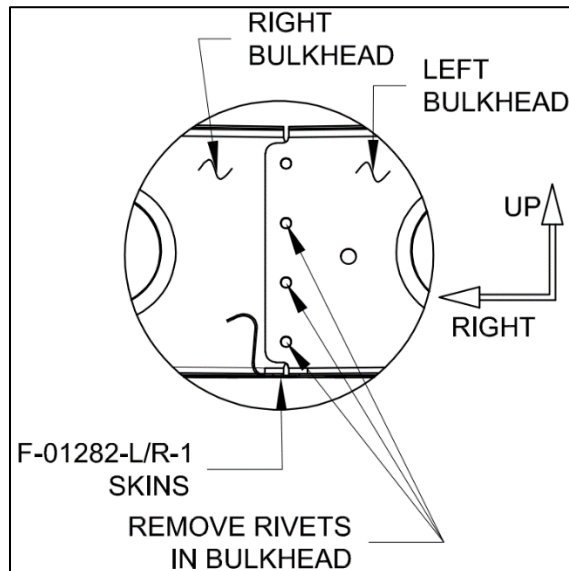

Figure 5 - Rivet Removal in Bulkheads
Step 8: Remove rivets in the F-1208, F-1209, and F-1210 bulkheads as shown in Figure 5.